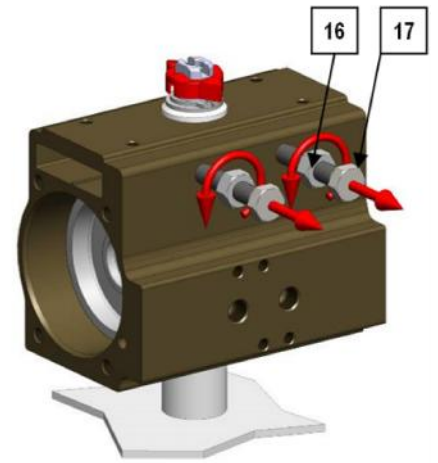

Fig.3
7. Loosen nuts ( 16 ) and unscrew completely screws ( 17 ) see Fig. 3 ;